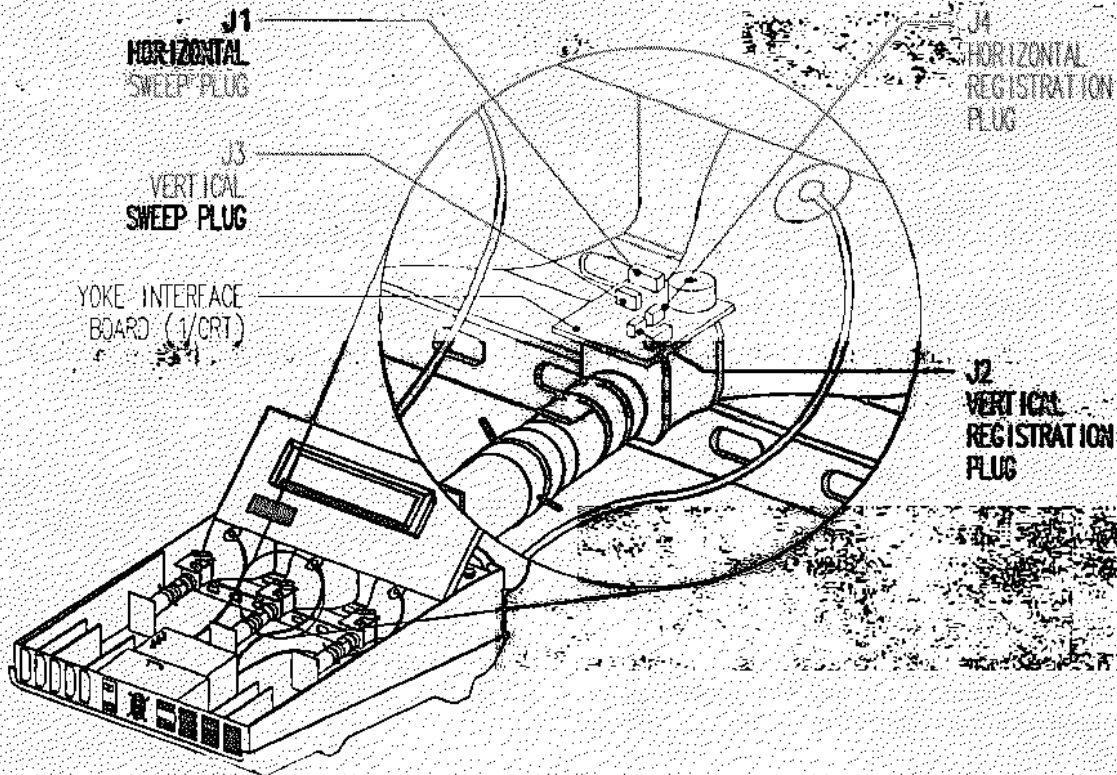

FIGURE 5-6.
- STEP 2. Unlock and tilt up the Registration Board which is across the center of the system. See Figure 5-6.
- STEP 3. Horizontal sweep reversal is accomplished by reversing the horizontal Sweep and Registration connectors on the three deflection interface boards. See figure 5-6. NOTE: See Table 5-1, Page 5-7 for further sweep reverse configurations..
- STEP 3A. Pull the horizontal sweep plug (P-1) out of (J-1), turn it end for end (180 °) and plug it back into (J-1). See Figure 5-6.
- STEP 3B. Remove the horizontal registration plug (P-4) from (J-4) turn it end for end (180°) and plug it back into (J-4) . Refer to figure 5-6.
- STEP 4. On the Yoke interface board, located and pull the Vertical Sweep Plug (P3) out of (J3) turn it end-for-end (180°) and plug it back into (J3). See Figure 5-6.
- STEP 5. Again on the Yoke Interface board, pull the Vertical Registration plug from (P2) from (J2), turn it end-for-end (180°) and reinsert (J2). See figure 5-6.